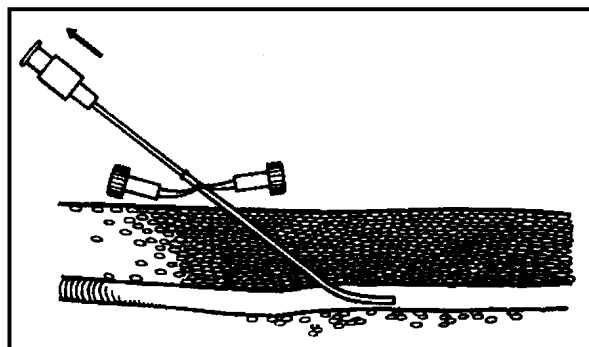

Figure 3-27
- (d) Release the occlusion on the vein and remove the needle from the sheath/needle assembly, leaving just the sheath in the vein. (See Figure 3-27.)